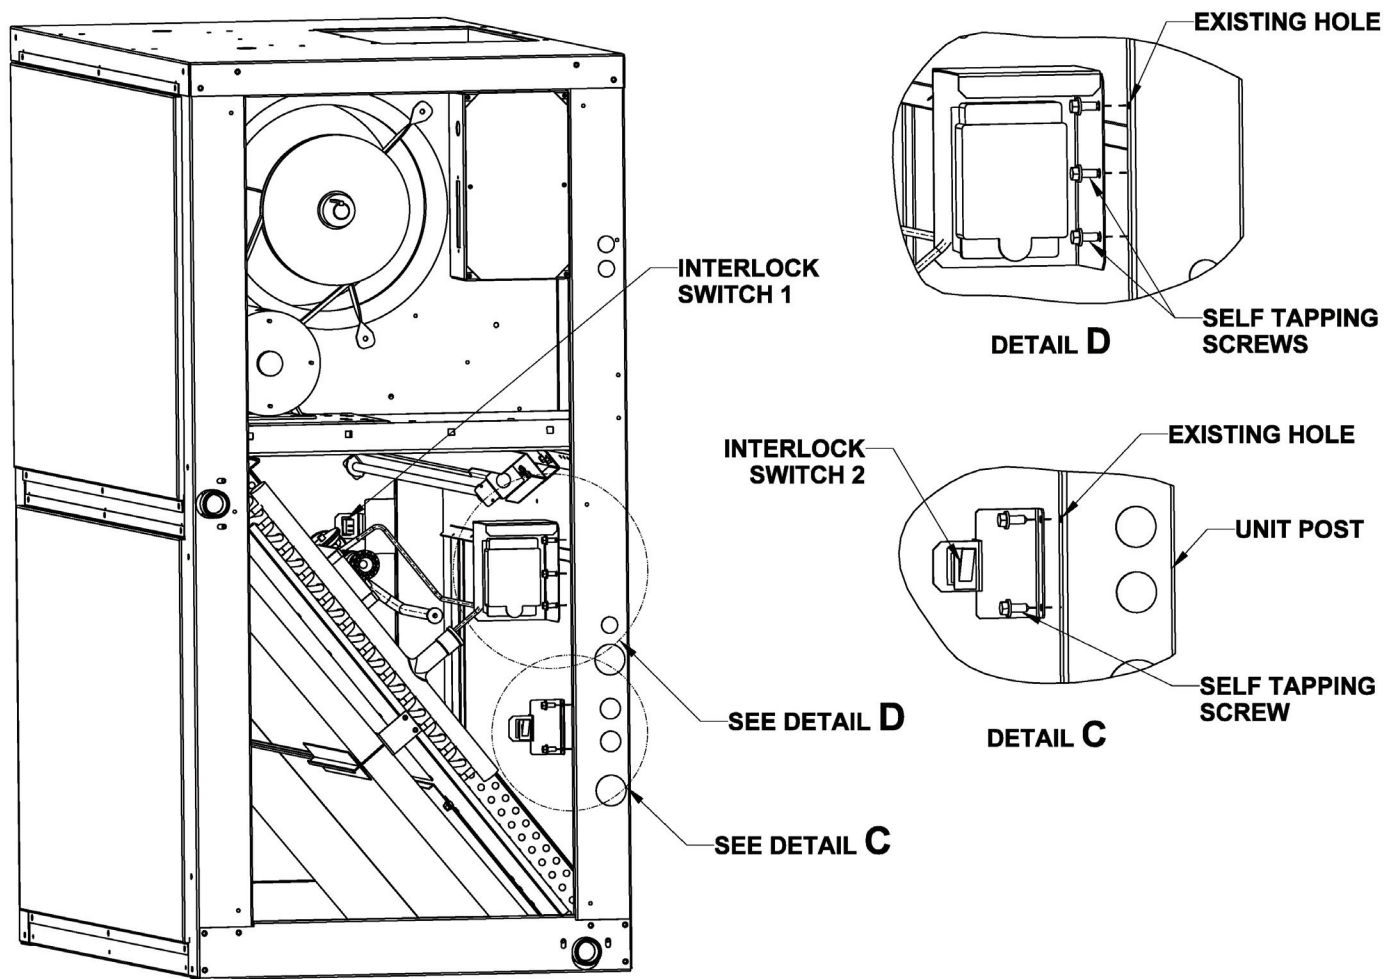

Fig. 8 — Interlock Switch and On/Off Switch
2. Locate the two interlock switches and bracket, attach them to unit post using existing hole with 1/4 in. screw and self tapping screw. (See Fig. 8.)
3. Locate the pre-assembled on/off switch and install it using existing hole with 1/4 in. screw and two self tapping screws. (See Fig. 8.)